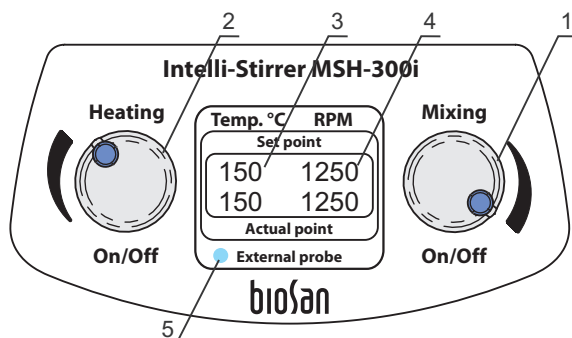

Fig. 2 Control panel
on the upper line **Set point**: temperature mode indication (OFF) or previously set temperature (fig.2/3) of a heating surface or liquid (if external probe is activated) and set speed of magnetic stirring element (fig.2/4);
- 4.5. Using the **Heating** knob (Fig. 2/2) switch the heating **On** and set the required temperature (in the 30 to 330°C range).
The external probe indicator lamp will light up on the control panel (fig.2/5), showing that the temperature control is now performed via the external probe.
Using the **Heating** knob (Fig. 2/2) switch the heating **On** and set the required liquid temperature (in the 20°C to 150°C range).
The indicator lamp (Fig. 2/5) flashing shows that the external probe is not dipped into the liquid and the plate temperature has reached its maximum of 340°C. This can cause an emergency situation, so dip the external probe into liquid or switch off the unit.
- 4.8. Using the **Mixing** knob (Fig. 2/1) switch the mixing mode **On** and set the required speed (in the 100 to 1250 rpm range).